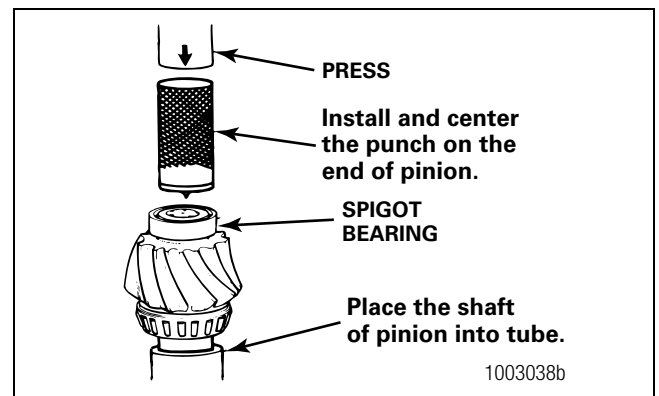

Figure 5.6
1. Place the drive pinion and the tube of the staking tool into a press with the spigot bearing toward the top. Figure 5.6.
- Place the punch of the staking tool over the end of the pinion and spigot bearing. Apply the required amount of force on the punch. Figure 5.6.